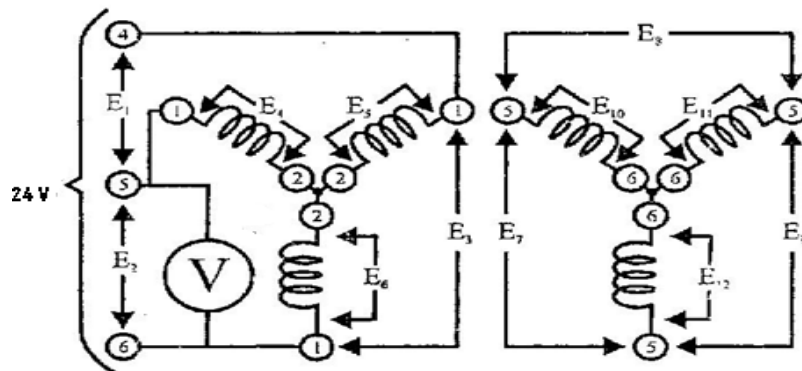

Figure 3.6. Wye-Wye (Y-Y)
- a) The circuit shown in Figure 3.6 has three transformers connected in a wye – wye configuration.